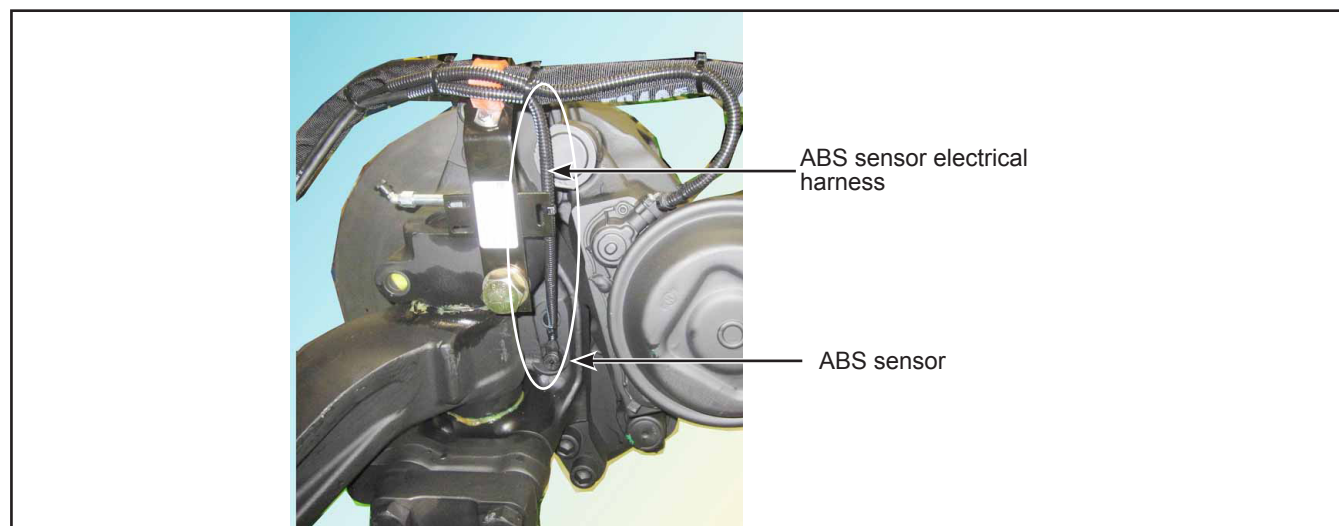

Figure 12 - ABS Sensor Electrical Harness Location
- 1.2.2. Ensure that the position of the electrical harness attaching points is as described in this document. See Figures 12 to 20.
2.15. Locate the ABS sensor electrical harness on the front axle. See Figure 12.